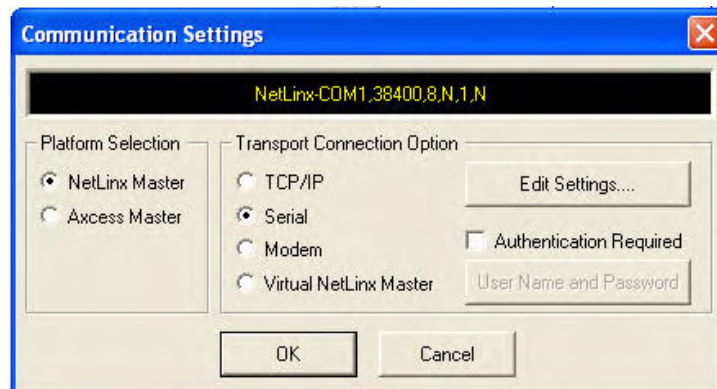

FIG. 70 Communications Settings dialog box
- Click the **Communications Settings...** button to open the *Communications Settings* dialog box (FIG. 70).